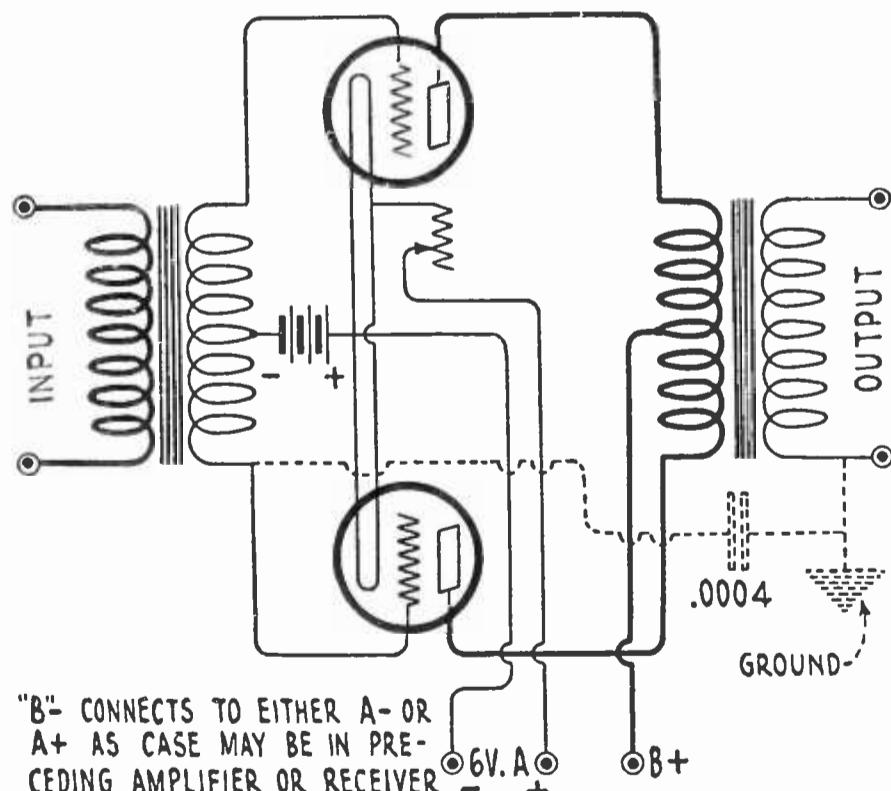

FIG. 1
**I**N Fig. 1 is shown a standard circuit for a push-pull amplifier. It has been found that the push-pull unit works better when the signal is first boosted by a stage of straight audio amplification before it. Several push-pull amplifying transformers are now on the market, but in case you have a supply of standard transformers they may be used as follows: For the input use two standard transformers connecting the primaries in parallel and the secondaries in series. The pair of transformers (in output or input side) should each be of the same turn ratio. In the output, the primaries are in series while the secondaries are in parallel. Notice the reversed tube connections of the lower tube. This will be evident when the filament sides of two sockets are placed together.